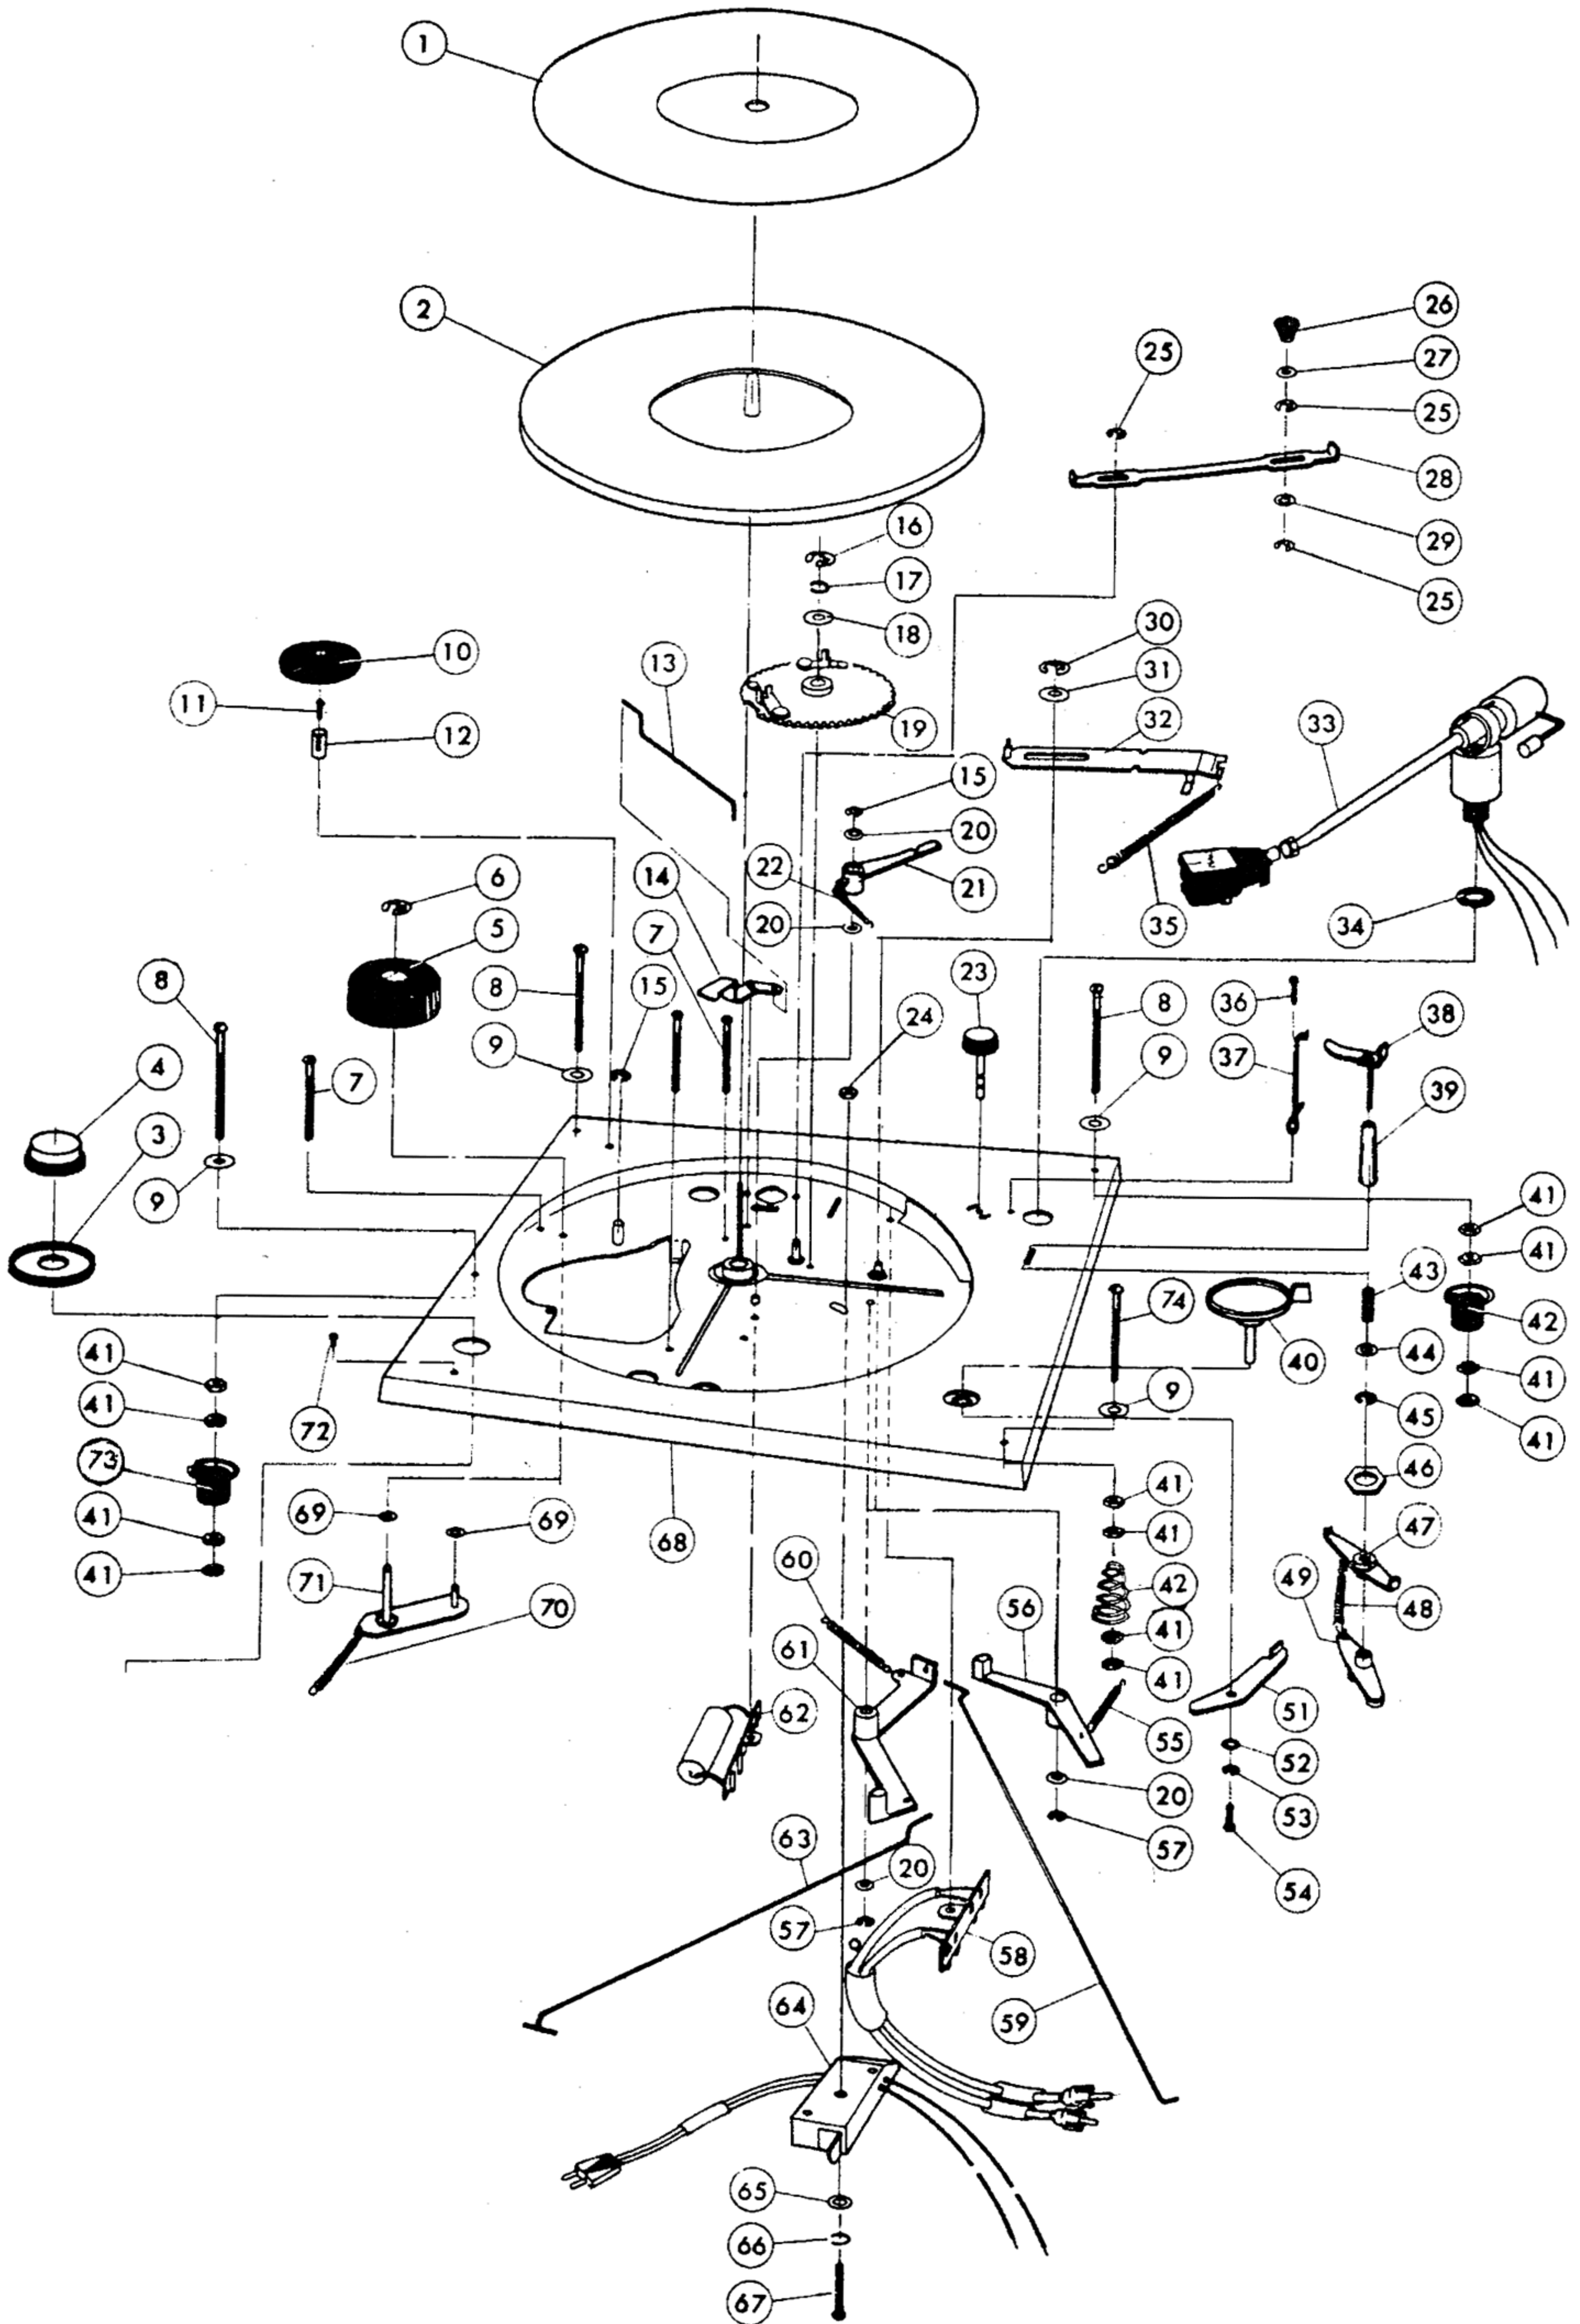

Fig. 5
2. The drawing No. correspond to those of Fig. 5.